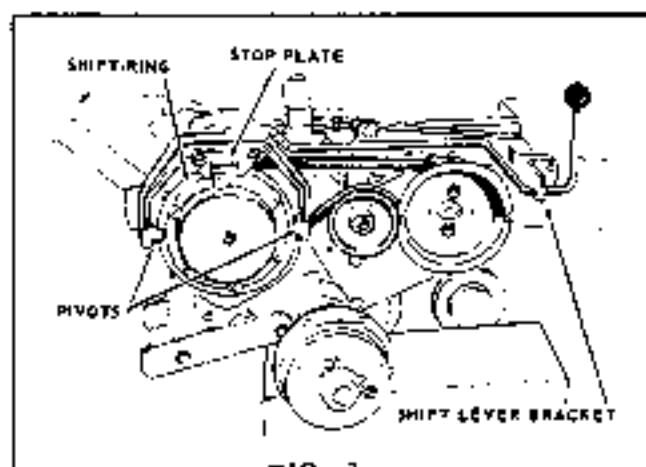

FIG. 3
12. Remove the capscrew from the right side of the tractor frame above the parking brake. Use this screw to attach the shift lever bracket as shown in Fig. 3. Align to permit proper movement of the shift lever and then tighten in place.
15. Make sure that the stop plate (Fig. 3) is positioned next to the two-speed pulley gear case. Approximately 1/16" clearance is required between the stop plate and cover. With this minimum clearance the stop plate will lodge properly between the nuts.